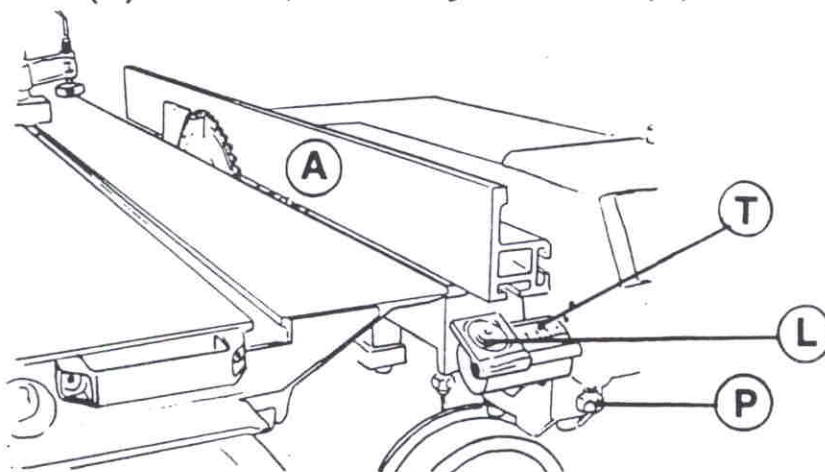

Fig.37
- Move parallel fence so that section (A fig.37) touches the saw blade then lock the fence by handle.
- Loosen knob (P) and position the lens with reference line (L) on rule (T) to zero, then tighten knob (P).
- When section (A fig.37) touches the saw blade by pressing button (R fig.39) the reader is set to zero